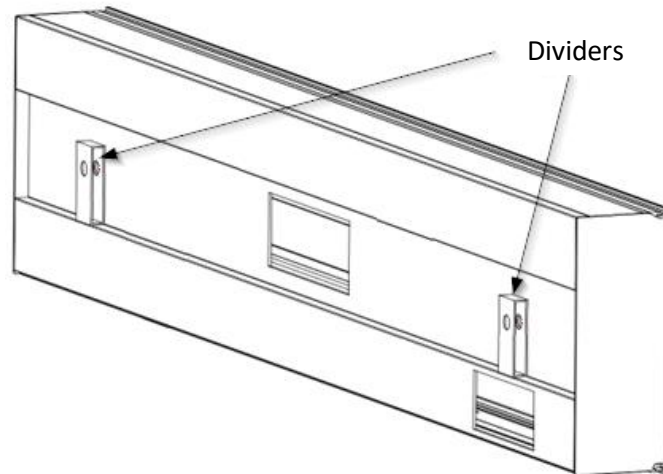

Fig.5 Rear spacers to prevent bending of the centre profile.
- Position the spacers to prevent the centre profile from flexing as shown in figure 5.